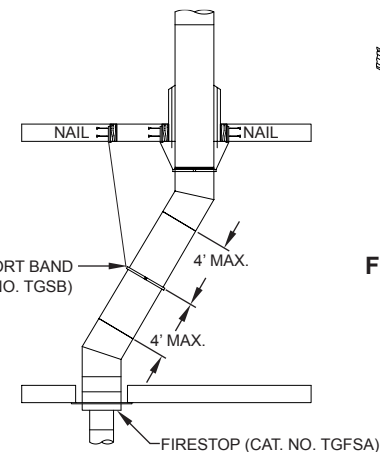

FIG. 18
2. Attach the elbow to the chimney pipe or other support part and twist to lock. Using the offset chart, add chimney sections between elbows. A support band (TGSB) is required at the upper elbow of the pair to support the load, as shown in **FIG. 18**. Attach the upper elbow to bring chimney back to vertical.